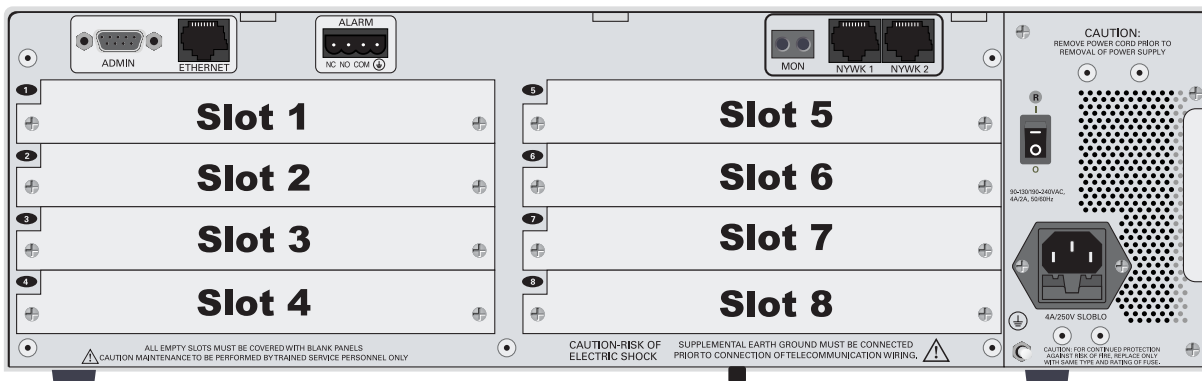

Figure 1. ATLAS 830 Rear View
1. For the alarm relay contacts labeled **ALARM** on the rear of the ATLAS 830 as shown in Figure 1, determine whether the external alarm reporting device uses normally open (NO) or normally closed (NC) relay contacts to sense an alarm condition.